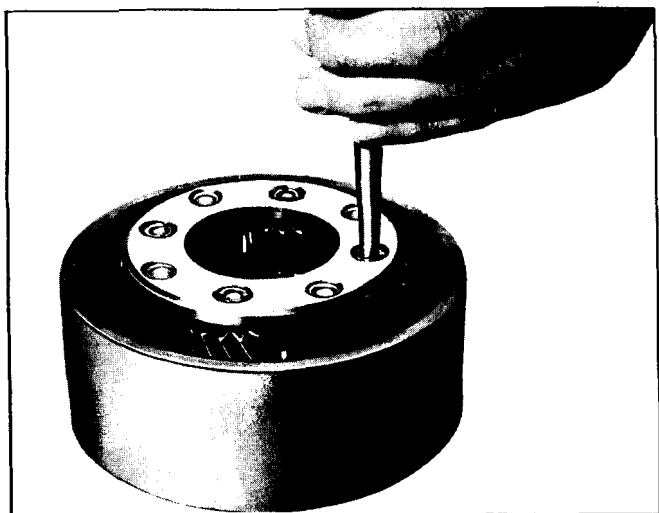

Fig. 7E-147 Driving Pinion Pin from Carrier (Reaction Carrier Shown)
3. Using a tapered punch, drive or press pinion pins out of carrier (Fig. 7E-147).
6. Install eighteen (18) needle bearings into each pinion, using petrolatum to hold bearings in place. Use pinion pin as guide (Fig. 7E-148).